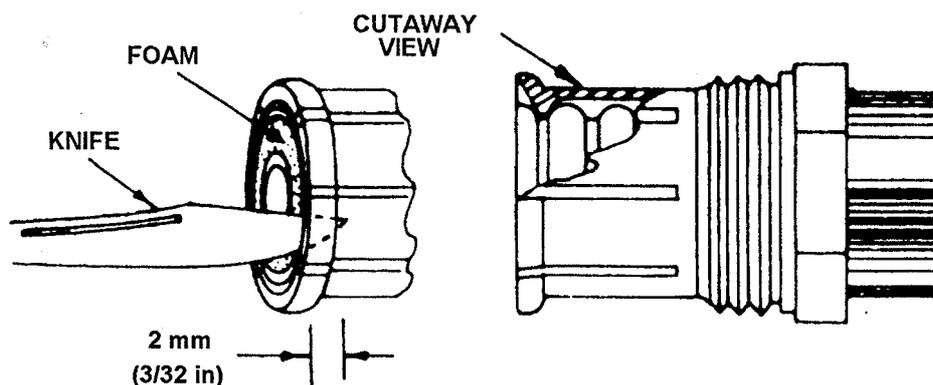

Figure 3.60. Detaching Foam and Removing Burrs
- e. Using the tip of a knife, work around the entire circumference separating all foam completely from the edge of the outer conductor. This is to ensure a good electrical contact between the outer conductor and the outer body of the connector. (See the enlarged cutaway view in Figure 3.60 that (at the arrow) shows the eventual positive grip of the outer conductor between the clamping nut and the outer body of the connector).
- f. Use a knife to remove all burrs from the inside edges of the outer and inner conductors. Use a wire brush or scraper to remove all copper particles from the foam (see Figure 3.60).